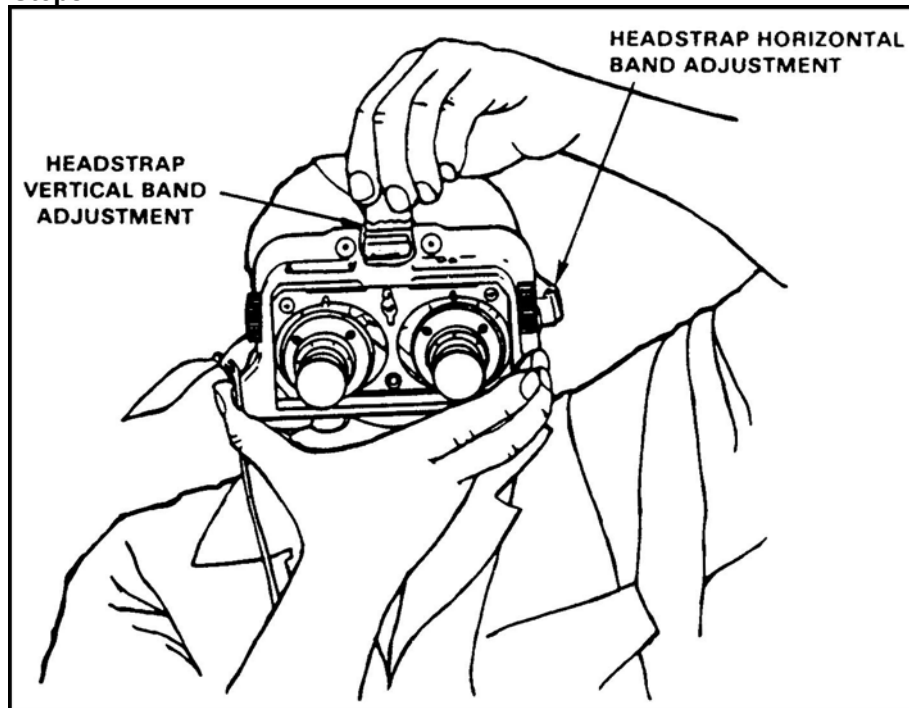

Figure 6. Adjusting headstraps.
- (5) With your head still bent, grasp center (vertical) band adjustment and pull until snug (Figure 6).